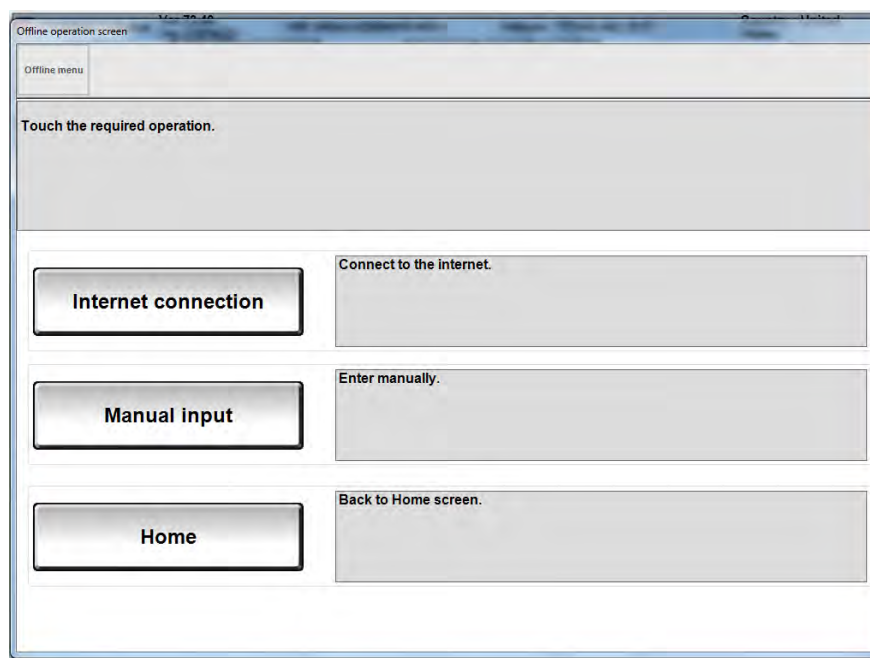

Figure 17
- If the CONSULT PC is not connected to the Internet, the screen in Figure 17 will display.